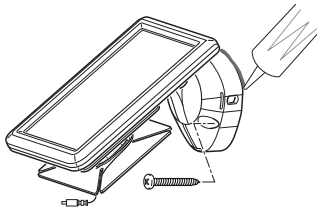

Figure 8
1. Place the solar panel against the mounting surface and mark the mounting holes (see Figure 8).